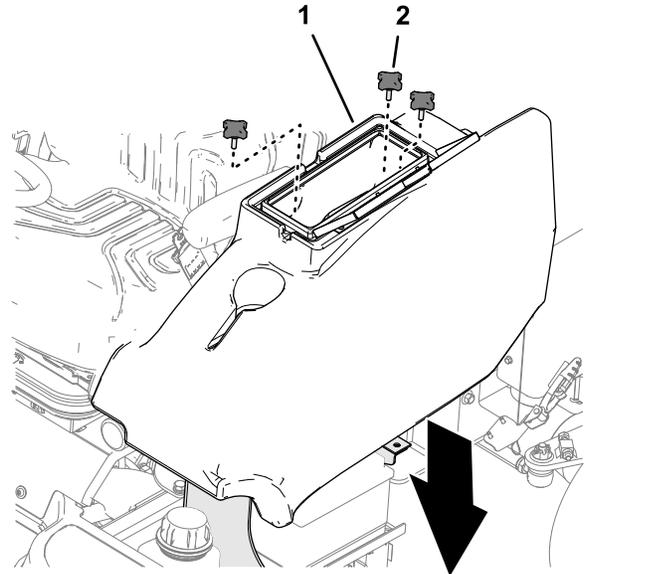

Figure 54
- Assemble the storage compartment to the machine with the 3 knobs (Figure 54)